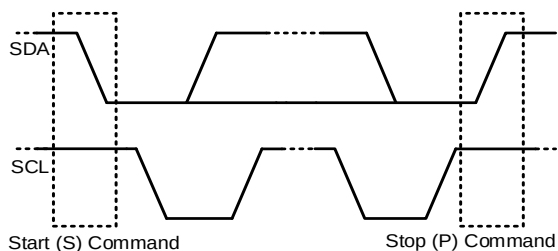

Figure 7: Start and Stop Commands
All transactions begin with a start (S) command and are terminated by a stop (P) command. Start and stop commands are always generated by the master. A start command is defined as a high to low transition on the SDA line while SCL is high. A stop command is defined as a low to high transition on the SDA line when the SCL is high (see Figure 7 on page 25).